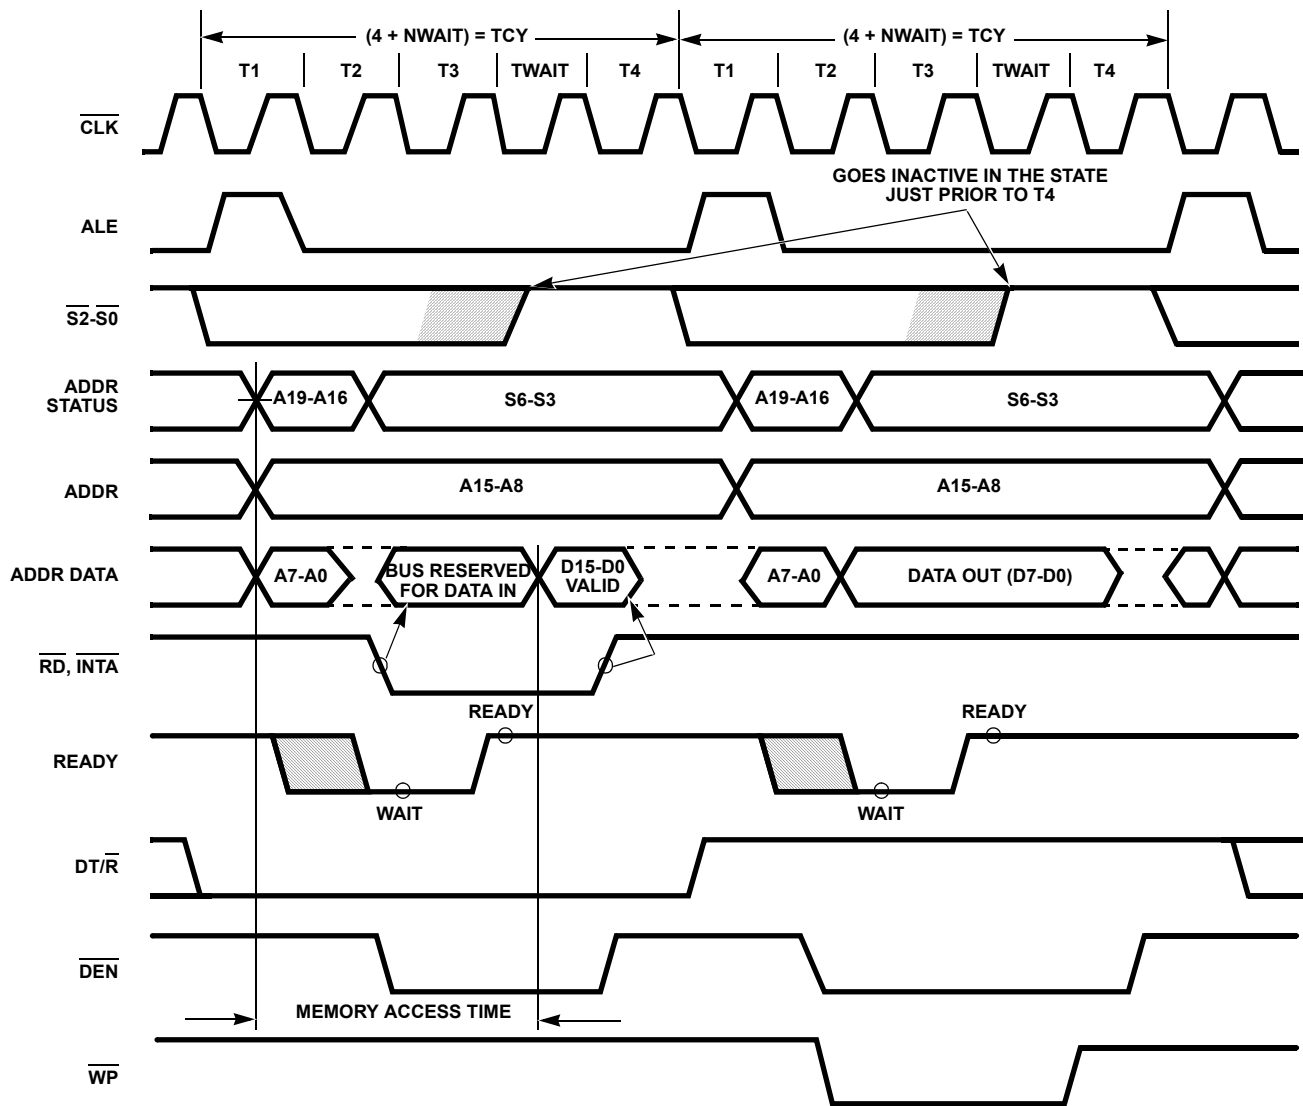

FIGURE 5. BASIC SYSTEM TIMING
Each processor bus cycle consists of at least four CLK cycles. These are referred to as T1, T2, T3 and T4. (See Figure 5). The address is emitted from the processor during T1 and data transfer occurs on the bus during T3 and T4. T2 is used primarily for changing the direction of the bus during read operations. In the event that a "Not Ready" indication is given by the addressed device, "wait" states (TW) are inserted between T3 and T4. Each inserted "wait" state is of the same duration as a CLK cycle. Periods can occur between 80C88/883 driven bus cycles. These are referred to as "idle" states (T1), or inactive CLK cycles. The processor uses these cycles for internal housekeeping.
The read cycle begins in T1 with the assertion of the address latch enable (ALE) signal (see Figure 5). The trailing (low going) edge of this signal is used to latch the address information, which is valid on the address data bus (ADO-AD7) at this time, into the 82C82/82C83 latch. Address lines A8 through A15 do not need to be latched because they remain valid throughout the bus cycle. From T1 to T4 the $\text{IO}/\overline{\text{M}}$ signal indicates a memory or I/O operation. At T2 the address is removed from the address data bus and the bus is held at the last valid logic state by internal bus-hold devices. The read control signal is also asserted at T2. The read ($\overline{\text{RD}}$) signal causes the addressed device to enable its data bus drivers to the local bus. Some time later, valid data will be available on the bus and the addressed device will drive the READY line HIGH. When the processor returns the read signal to a HIGH level, the addressed device will again three-state its bus drivers. If a transceiver (82C86/82C87) is required to buffer the